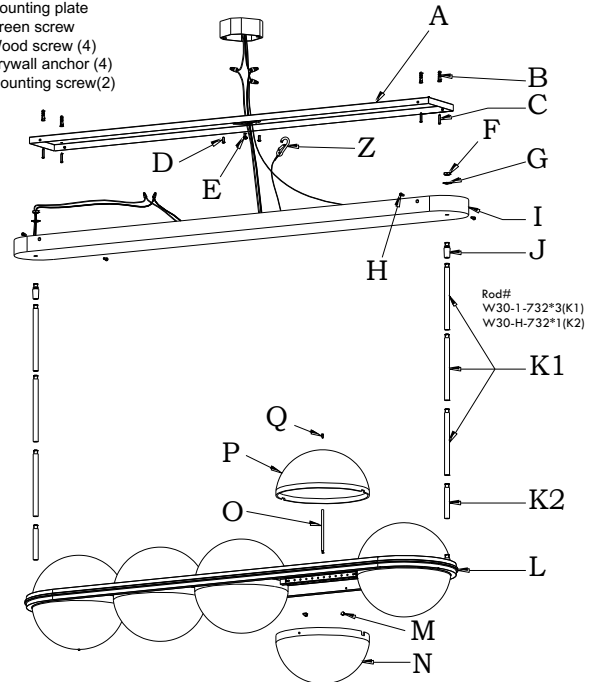
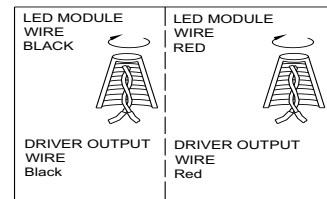

Fig.2
Fig.3
3. Position the mounting plate (A) onto the ceiling and mark the location of the four drywall anchors (B). Pre-drill the holes for the drywall anchors (B) and insert the drywall anchors (B) into the ceiling.
4. Connect the white input wire from the driver to the white wire from the junction box. Connect the black input wire from driver to the black wire from the junction box. (Fig.3)
5. Attach the mounting plate (A) to the junction box (not included) using the mounting screws (D) (Size: 8-32*1/2"L). The side of the mounting plate (A) marked "GND" must face out.
6. Place the wood screws (C) through the mounting plate (A) and lock them into the drywall anchors (B) to secure the mounting plate (A) to the ceiling.
8. Secure swivel (J) to the last section of rod (K).
9. Slide the back plate(I) onto the two swivels (J), and secure tightly with lock hex nut (F), key washer (G).
10. The support cable is provided to support the weight of the fixture while wiring. Attach hook (Z) on the end of support cable into a slot located on the mounting plate (A). Carefully allow the support cable to support the weight of the fixture while wiring.
CONNECTING THE WIRES (Fig.2)
11. The red and black input wires from the led module are marked LED+ & LED-. Connect the red output wire (marked output+) from the driver to the red wire (marked LED+) from the LED module and the black one (marked output-) to the black wire (marked LED-) from the LED module. See Fig. 2, make sure that all wire connectors are secured. If your junction box has a ground wire (green or bare copper), connect the fixtures ground wire to it. Otherwise, connect the fixture ground wire directly to the mounting plate (A) using the green screw (B) provided. Connect the white input wire from the driver to the white wire from the junction box. Connect the black input wire from driver to the black wire from the junction box. (Fig.3).